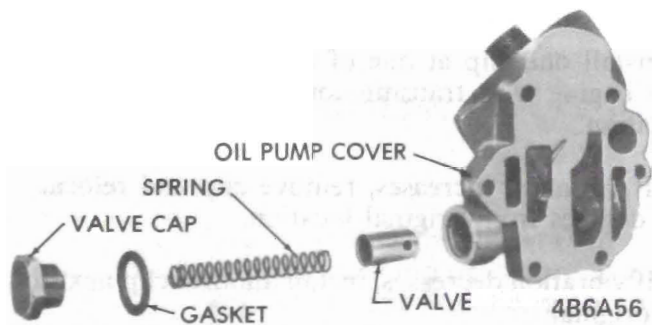

Figure 6A-102 - Oil Pump Cover and Pressure-Relief Valve
4. Remove the oil pressure relief valve cap, spring and valve. See Figure 6A-102. Oil filter by-pass valve and spring are staked in place and should not be removed.